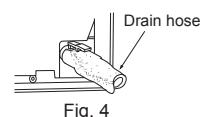

Fig. 4
- When connecting the drain hose to the hard vinyl chloride pipe, be sure to insert it securely into the pipe. (Fig. 4)